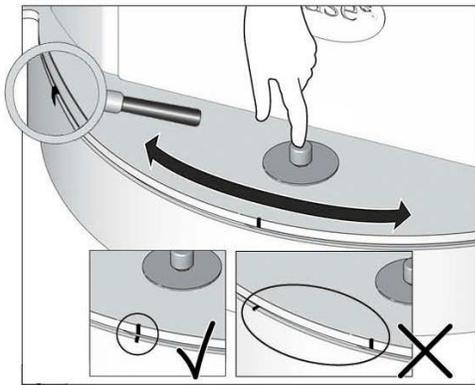

Figure 3 - Zero Index Marks
1. Figure 3 - Zero Index Marks
3. Ensure the stove is in its 0-degree orientation (line up the index marks)(see fig. 3), and then position the stove to center the door on the hearth.